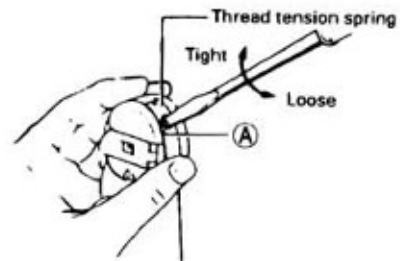

Fig.18
17. Lower thread tension (Fig.18):